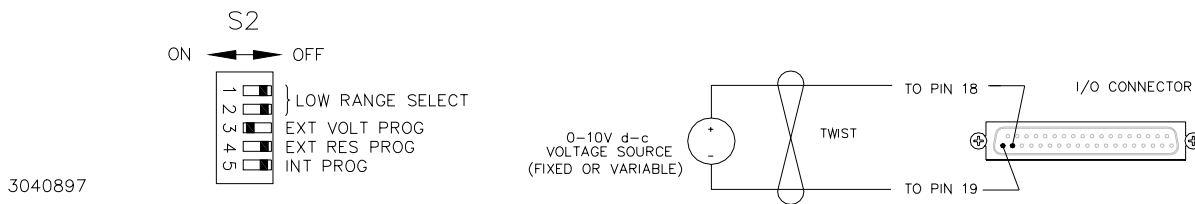

FIGURE 3-2. EXTERNAL VOLTAGE PROGRAMMING OF OUTPUT VOLTAGE
- c) **External Voltage Programming:** When enabled via S2-3, this mode provides for output voltage adjustment via an external voltage source (0-10V) connected between pins 18 and 19 (VPROG, -S) of the I/O connector (see Figure 3-2). This technique is useful when implementing digital control of the power supply output voltage via a D/A converter; Kepco's SN/SNR 488 programmers are ideally suited to these requirements.